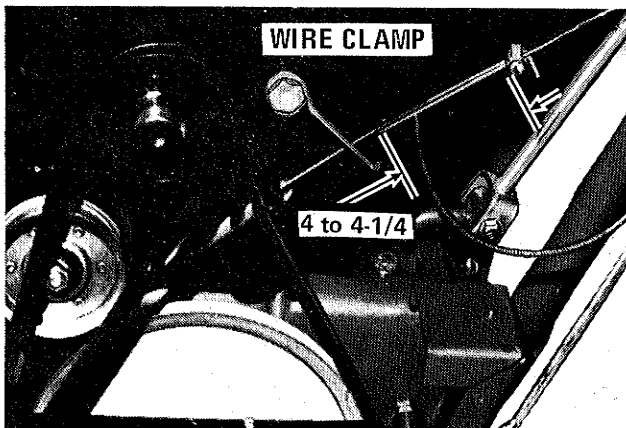

Figure 16.
4. Adjust the Touch-O-Matic control engagement at the control wire clamp. Loosen the clamp screw. Pull the upper extension wire down and the lower extension wire up until there is 4 or 4-1/4 inch clearance between the clamp and the end of the lower extension wire. Tighten the clamp screw securely. See Figure 16.